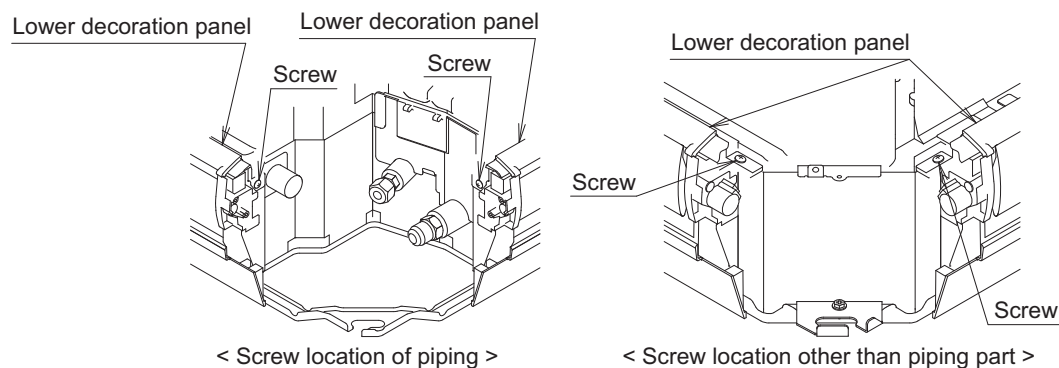

Fig. 14
- * If the blocking material is difficult to insert, loosen the left and right screws of the lower decoration panel and insert it. Make sure to tighten the loosened screws again after the blocking material is fixed. (**Refer to Fig. 14**)